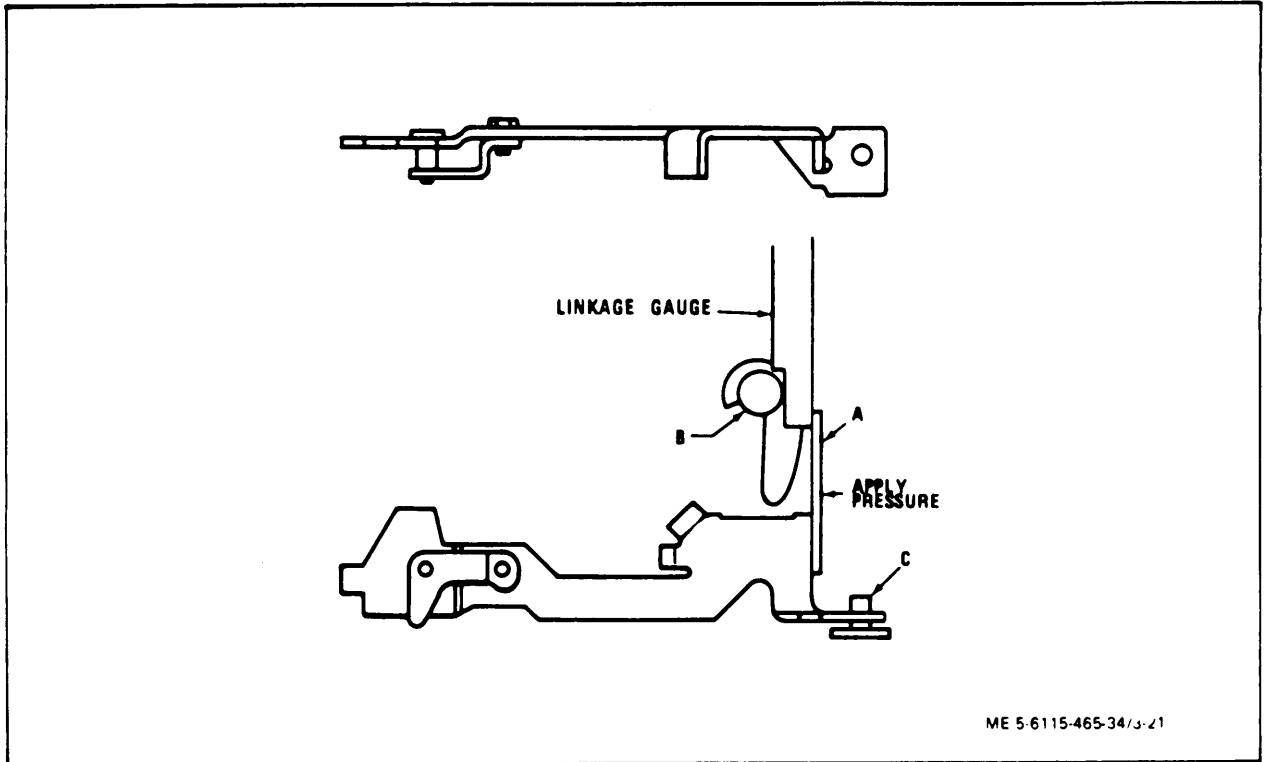

Figure 3-21. Throttle Linkage Adjustment
(43) Assemble the throttle shaft assembly (26) with lever (35) installed partially into position through the housing. Slide the spacer bushing (44) and the throttle shaft lever (45) over the throttle shaft so that the projection on the throttle shaft lever bore engages the keyway on the shaft. Position the throttle lever so that its forward tab straddles the linkage hook tab. Apply a light coat of grease to the throttle and shut off seals (41 and 42). Assemble the shutoff shaft assembly (24) from the opposite side of the housing with a slight rotary motion. Locate and secure shutoff cam (25),
(44) Rotate the shaft until a click is heard. This is the governor arm (86) engaging the governor thrust sleeve.
(45) With the throttle shaft in the wide open position, check the clearance between the rear of the throttle shaft (B) and the vertical tab (A) on the linkage hook. This clearance should be 0.210 to 0.225 inch. (See figure 3-21.)